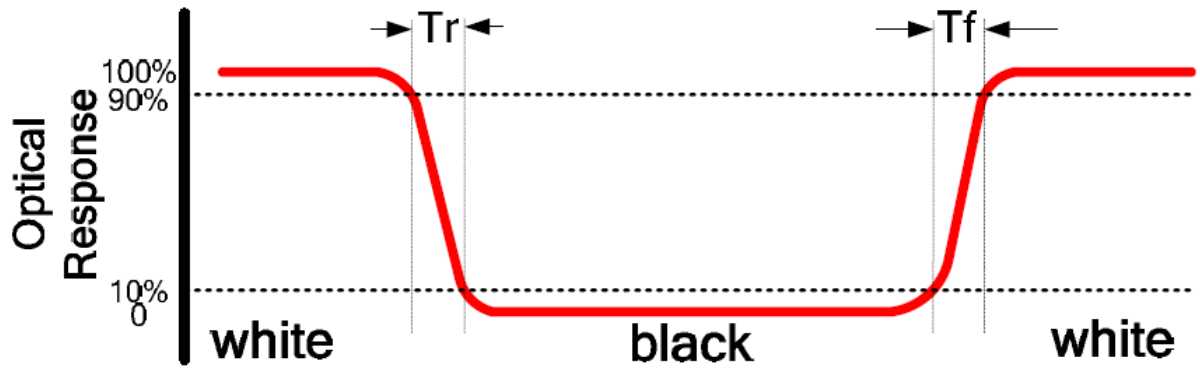

FIG.2. Measuring method for Contrast ratio
Note1. Contrast Ratio(CR) is defined mathematically by the following formula. For more information see FIG 2.:
备注1. 对比度是由以下公式计算所得。详见FIG 2.。